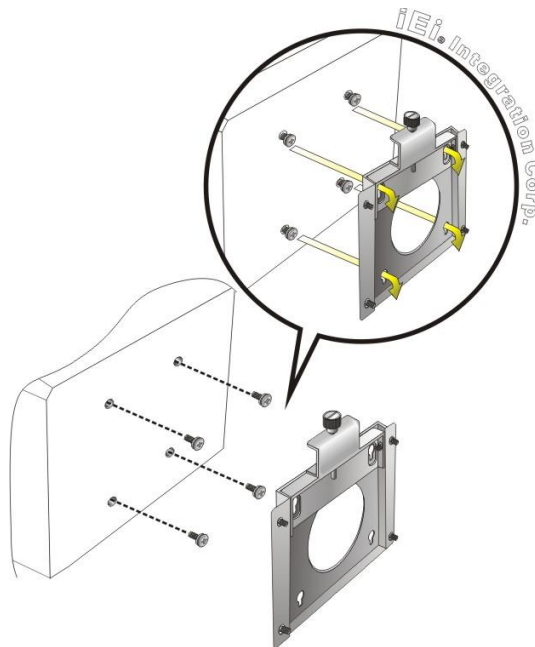

Figure 3-24: Hook onto the Wall Mounting Kit
Step 2: Screw the mounting screws to the mounting holes on the rear of the DM2 Series (Figure 3-24).
Step 3: Hook the DM2 Series onto the mounting holes of the wall mounting kit (Figure 3-24).